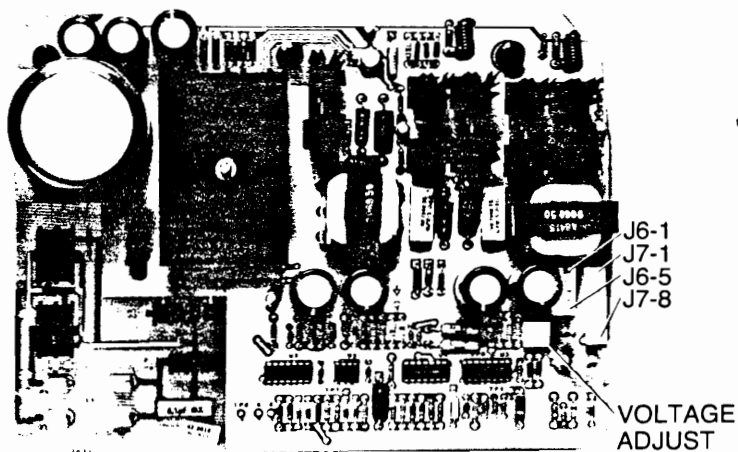

Figure 5-1. 45500A Power Supply Test Points and +5V Adjustment Locations
4. Using a 20,000 ohms/volt voltmeter, check the Power Supply PCA voltages (table 5-1 and figure 5-1 or 5-2) for accuracy. A fine-tipped voltage probe can be easily inserted through the holes in the cable connector (J5) or (J7).
5. Adjust the +5V potentiometer (figure 5-1 or 5-2) until the +5V and +12V (or +16.1V for 45500A-050) sources are within tolerance. If they cannot be adjusted to be within tolerance or if the -12V source is out of tolerance, refer to the Troubleshooting Section.